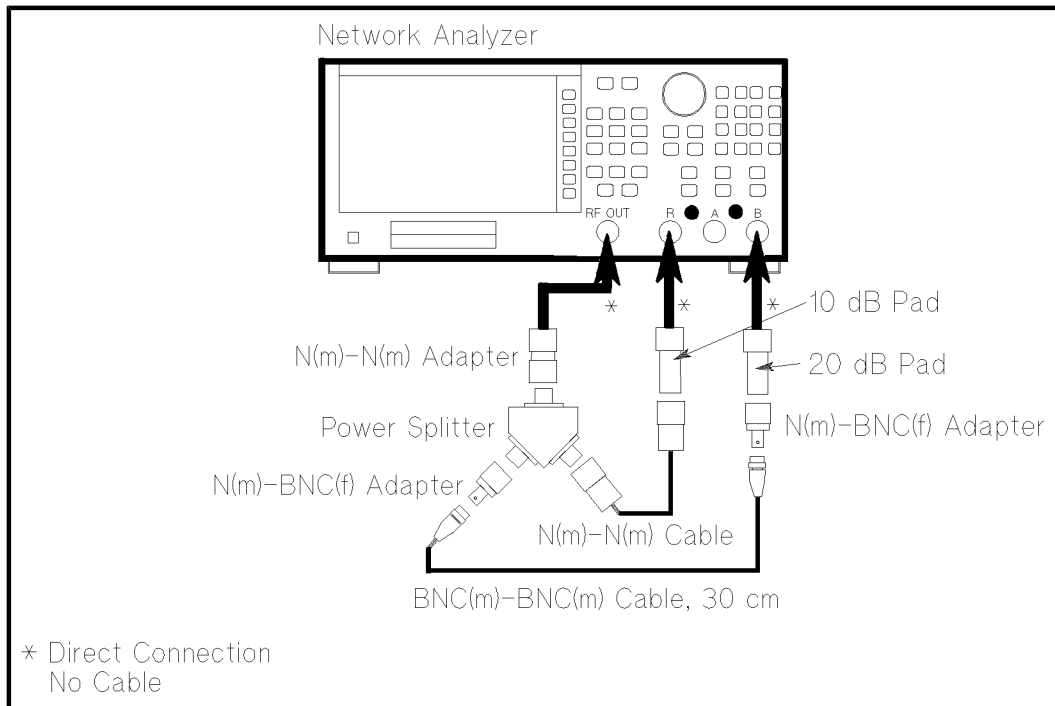

Figure 4-1. Test Setup 1
1. Connect the equipment as shown in Figure 4-1.